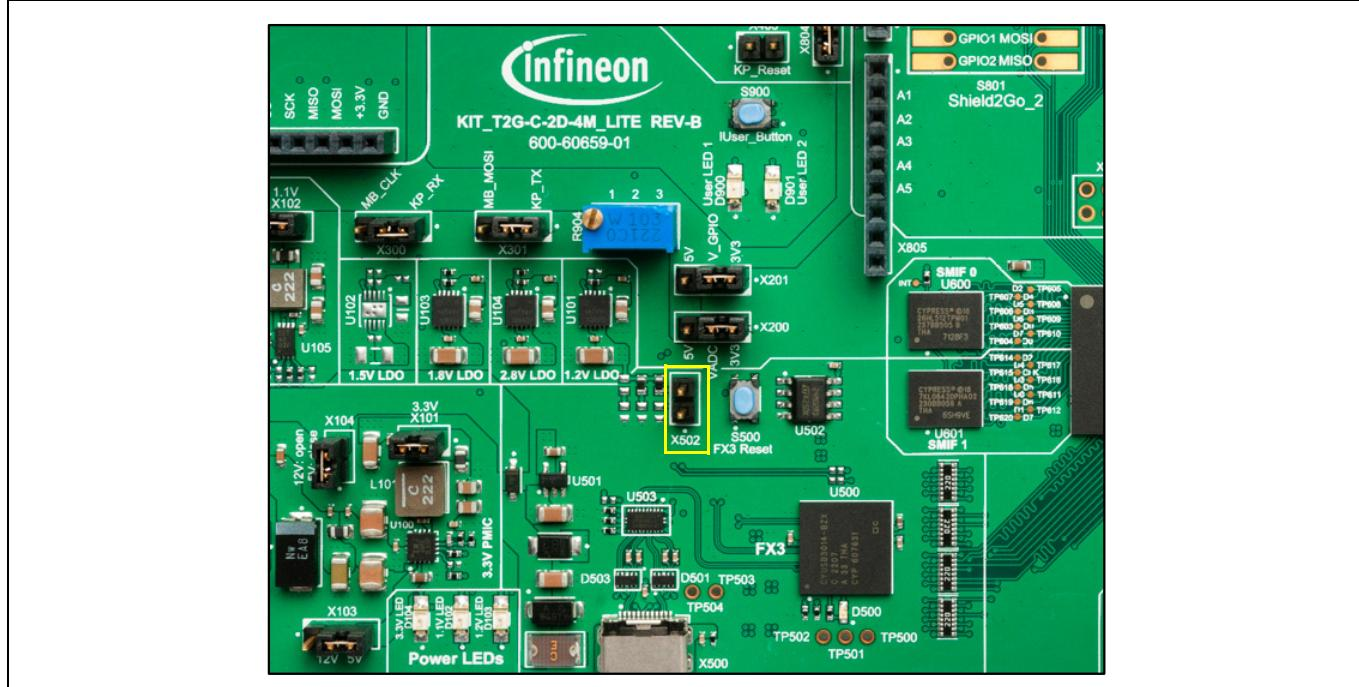

Figure 10 Checking FX3 bootloader jumper on the kit
- First, ensure that jumper X502 (highlighted in the yellow box in Figure 10) is not shorted. If it is shorted, then remove that jumper, and disconnect and reconnect the power supply.